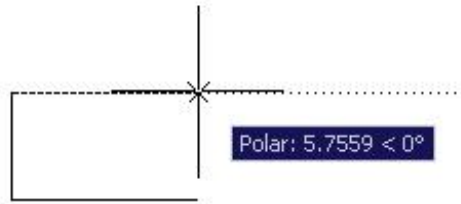

Figure 2-8
- When the cursor approaches one of the polar angles, the dotted Polar Tracking line shows with a tool tip. The tool tip will read "Polar:", followed by the distance and angle from the last point (*distance<angle*), as shown in Figure 2-8.